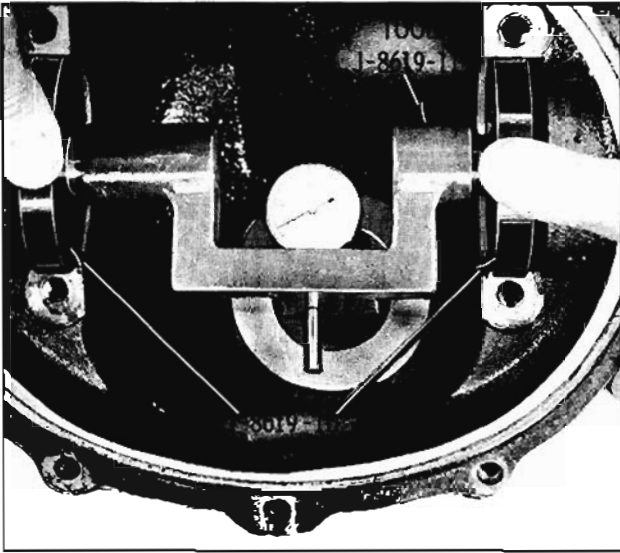

Fig. 10-121 Measuring Pinion Depth
8. Make certain differential bearing support bores are free of burrs. Install indicator gauge in carrier so that small diameter outer portion of discs rest in differential bearing pedestal support bores. Spring loaded center of gauge must be located in centering hole of gauge plate and contact button of dial indicator must be positioned to bear against outer edge of gauge plate top surface. (Fig. 10-121)